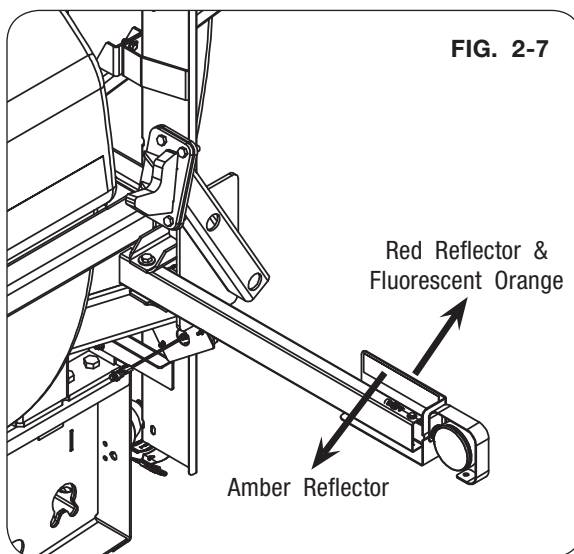

FIG. 2-7
1. Rotate amber flasher bracket to be perpendicular to the front toolbar tube (FIG. 2-7). The amber light should be visible to the front and rear of the unit. The amber reflector should face forward. The red reflector and fluorescent orange decal should face rearward.